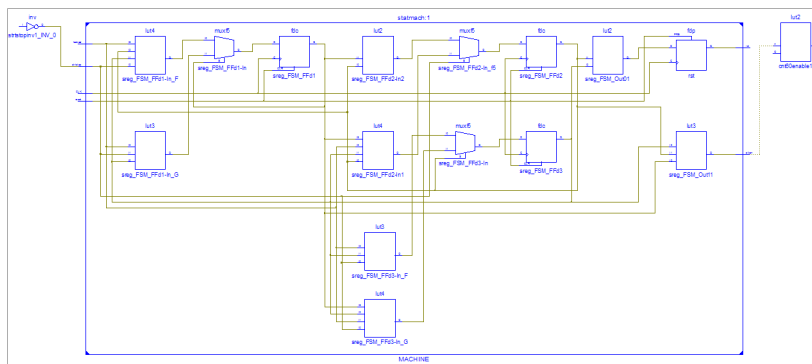

Figure 5-10: View Block Contents
1. Select the **MACHINE** block, and press the View Hierarchical Block icon to see its entire contents as shown in Figure 5-10.